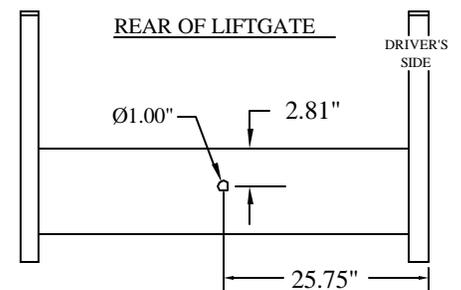

Figure 5 : Spare tire access hole location.
A) Remove the (2) 5/16" hex head bolts from the box cover.
- Step 2: **Drill** a 1" hole in the back of the mainframe as shown in **Figure 5** .